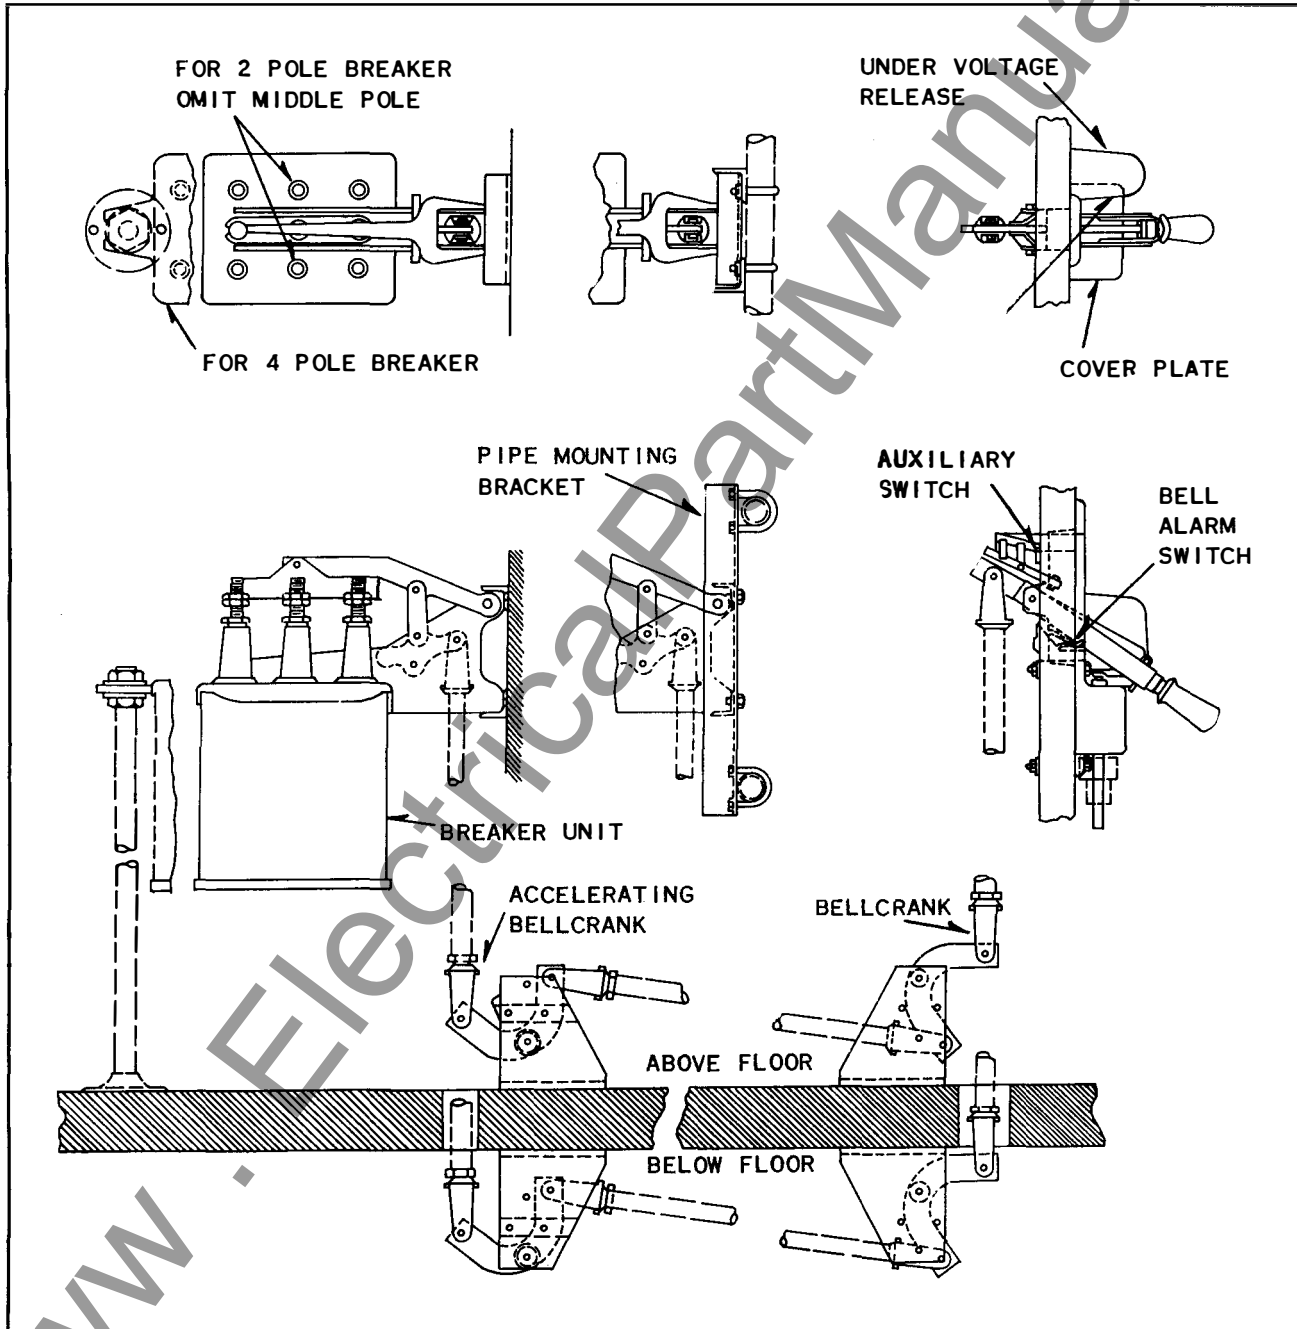

FIG. 8. Remote Control Assembly
**8.** If breaker unit is to be carried on a wall or pipe frame, assembly will be according to Fig. 8. The bell cranks are supplied for mounting on the floor with the accelerating device carrying the spring next to the breaker unit. If bell cranks are to